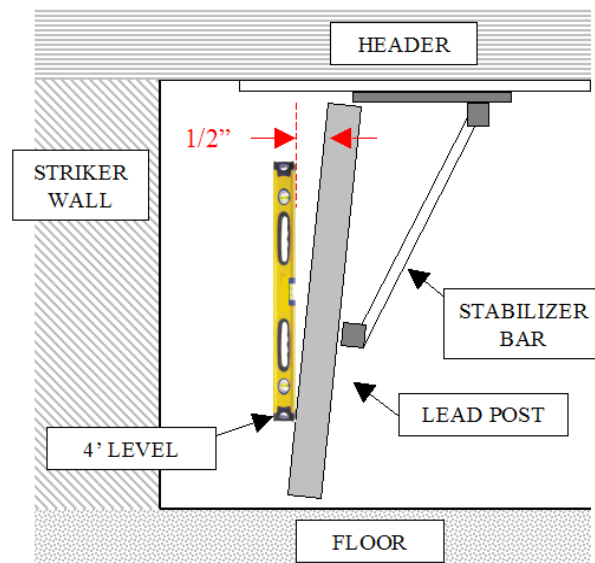

Figure 8.1. Attaching Stabilizer Bar to Trolley
Locate the *Adjustable Stabilizer Bar* and hardware provided. Make sure the (4) set screws located on the stabilizer bar (two on each end) are sufficiently tight to keep the adjustable arms from sliding out of the square tubing when the assembly is held vertically. Use the provided hardware to loosely attach the adjustable arms on (1) end of the stabilizer bar assembly to the bracket on the stabilizer bar trolley (the bracket should be set between the arms). See **Figure 8.1**. The set screws on the stabilizer bar should be facing away from the lead post.